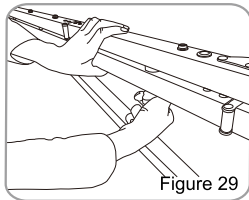
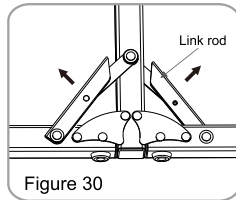

Figure 29
Figure 30
4. Screw off the locknuts on both legs and as Figure 29, and take off the legs. Pull up the legs' corner link rod and screw off the screws, retract the leg tubes and fasten the screws again. Unfasten the turning joint locks and fold the frame and legs ( Figure 30 - 32 ).